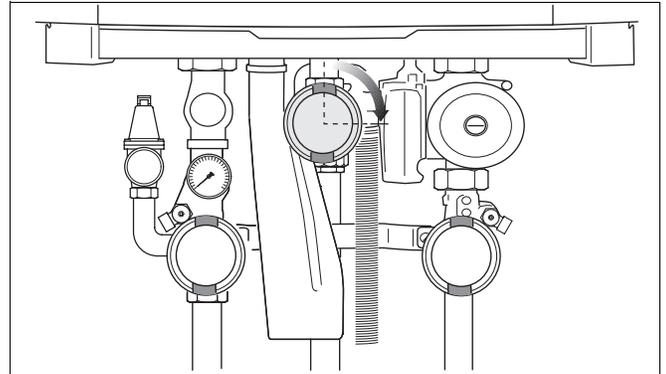

Fig. 52 Closing the gas valve
- Close the gas valve (fig. 52).
- Close the gas shutoff valve when no more air is present (fig. 52).